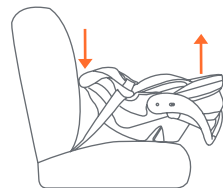
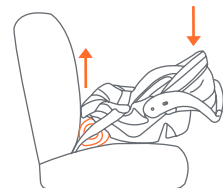

Fig. 48-2
Fig. 48-3
- If the Seat Angle Indicator shows **ANY** red, the Safety Seat is either **too upright or too reclined**. If the Safety Seat is too reclined adjust the Safety Seat as shown in Fig. 48-2 until the level indicator shows **NO** red. If the Safety Seat is too upright, place a tightly rolled towel, or car seat noodle, under the foot end of the Safety Seat until the level indicator shows **NO** red (Fig. 48-3). Re-tighten the vehicle seat belt as instructed in section **Securing the Safety Seat or Base in the Vehicle**.